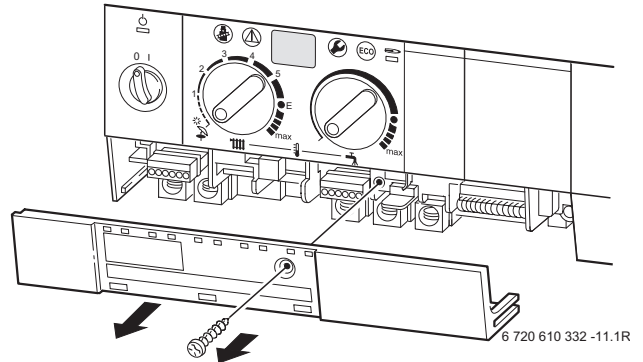

Fig. 28
- ▶ Remove screw and slide terminal cover forwards to remove. Refer to fig. 28.